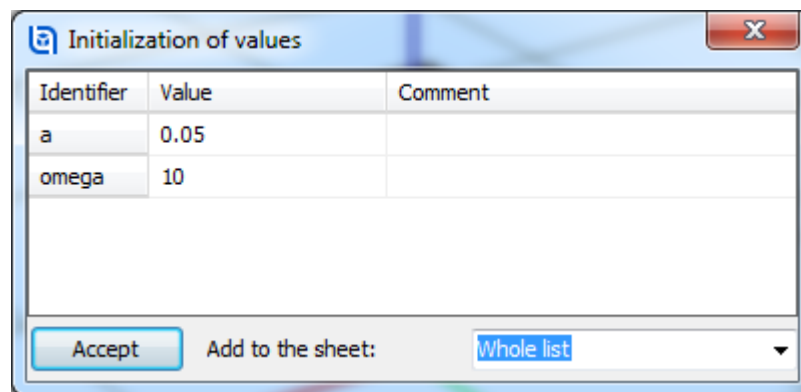

Figure 2.10. Initialization of values window
7. In the **Initialization of values** window set **a = 0.05** (m) and **omega = 10** (rad/s), see in Figure 2.10.